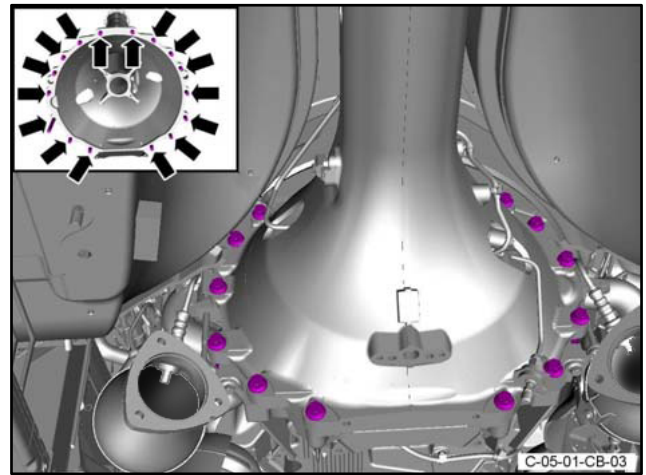

Figure 39
- 78. Install the 16 bolts that attach the torque tube assembly to the engine (refer to Figure 39).